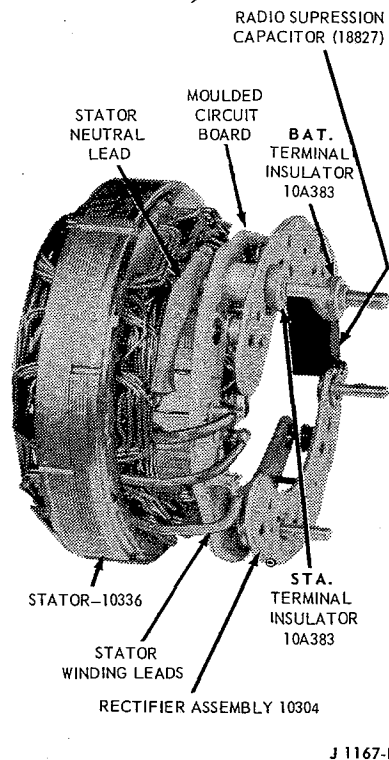
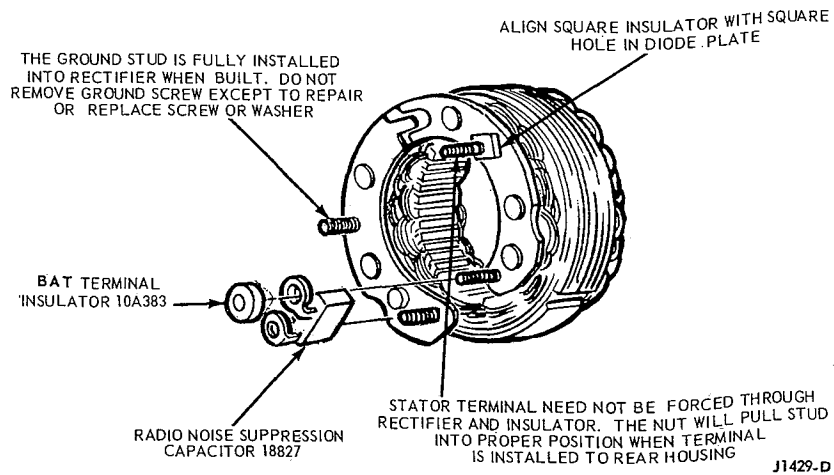

FIG. 16 Stator Lead Connections
FIG. 17 Terminal Insulators — Fiber-Glass Circuit Board
- Wrap the three stator winding leads around the rectifier terminals and solder them. Use a 100-watt soldering iron and rosin-core solder. Position the stator neutral lead eyelet on the stator terminal screw and install the screw in the rectifier assembly (Figure 16).
- Position the radio noise suppression capacitor on the rectifier terminals. On the circuit board with exposed diodes, install the STA and BAT terminal insulators (Figure 16). On the single circuit board, position the square hole in the rectifier assembly (Figure 12). Position the BAT terminal insulator (Figure 17) on the BAT terminal.